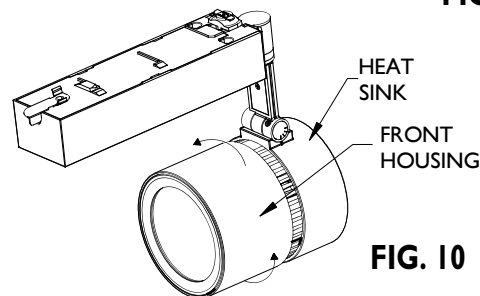

FIG. 10
INSTRUCTIONS FOR INSTALLING OPTIONAL ACCESSORIES (FIG. 10 & 11).
1. Remove FRONT HOUSING by twisting counterclockwise to unlock from HEAT SINK. (FIG. 10)